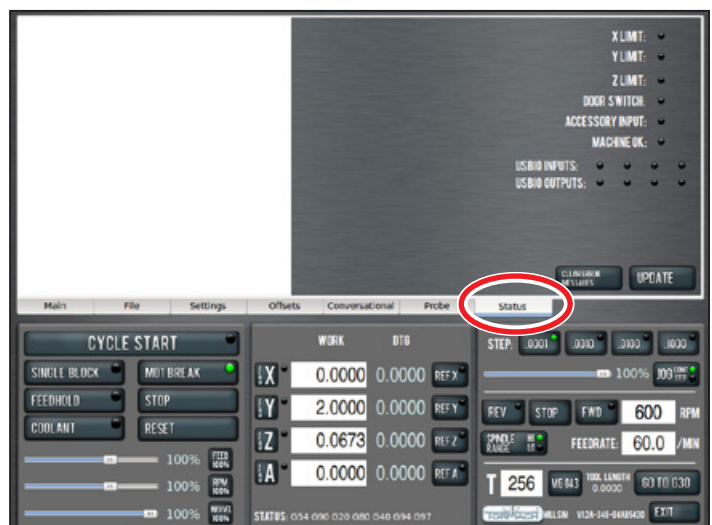

Figure 3.19
1. On the PathPilot interface, click the *Status* tab (see **Figure 3.19**).